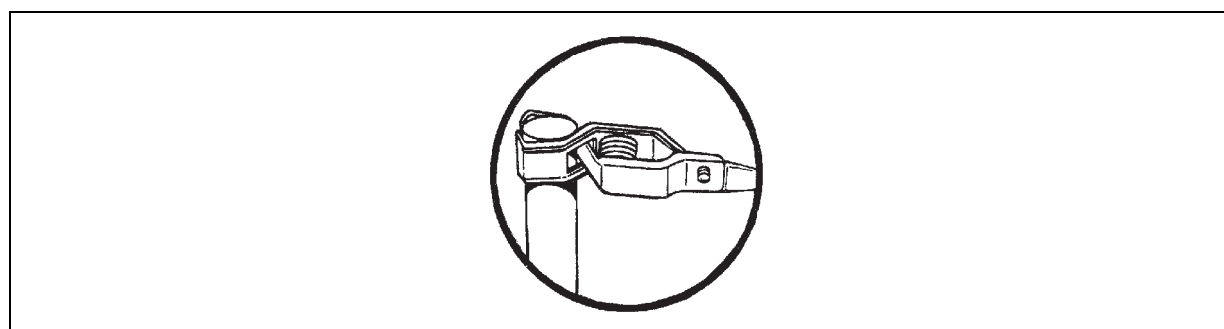

Figure D-4. Clamp Connected to Grounding Rod
- Attach an electrical clip to the other end of the 20-foot cable. Connect the clip to the grounding rod (figure D-4).